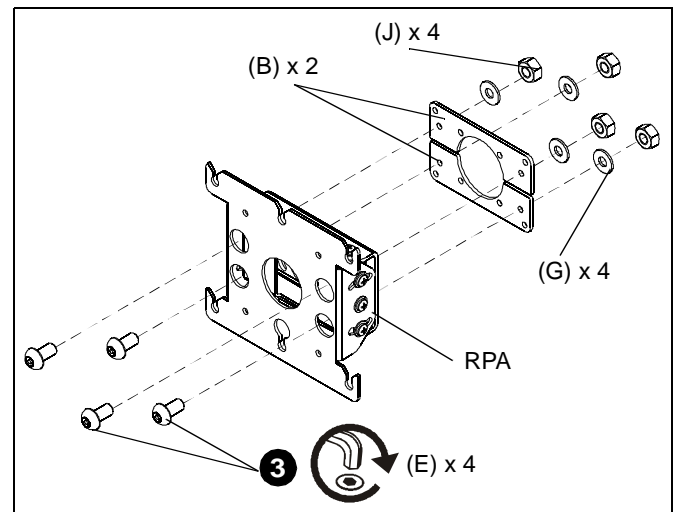

Figure 4
3. **For RPA only:** Attach two interface brackets (B) to the RPA using four 1/4-20 x 3/4" buttonhead screws (E), four 1/4" flat washers (G) and four 1/4" hex nuts (J). (See Figure 4)